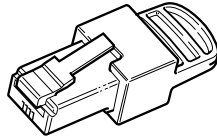

Figure 2-2 Xantrex Xanbus Network Terminators
- Network terminators (Figure 2-2)—the Xantrex Xanbus network must be properly terminated at each end with network terminators. If the network is not properly terminated, signal quality is degraded and performance on the network is reduced. Permanent configuration without terminators is not supported by Schneider Electric. One terminator is included with the Xantrex XW SCP. Depending on your network layout, this terminator may need to be inserted into another device elsewhere in the network.